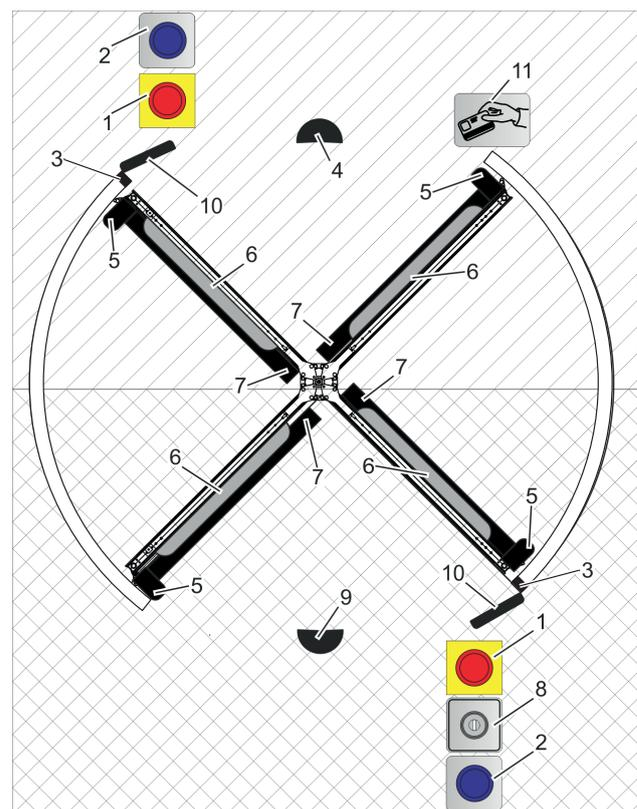
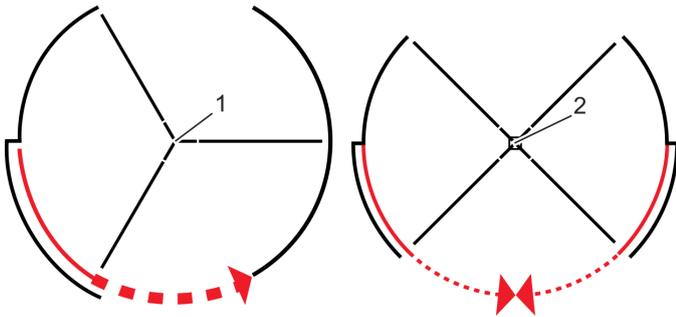
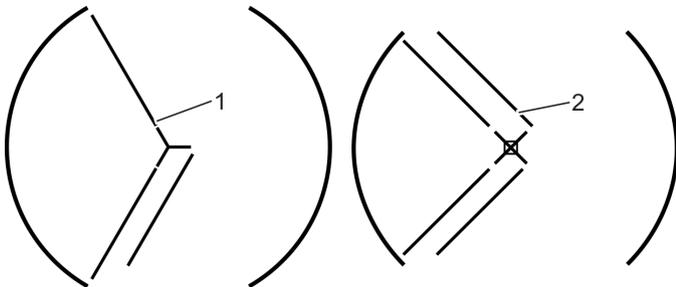
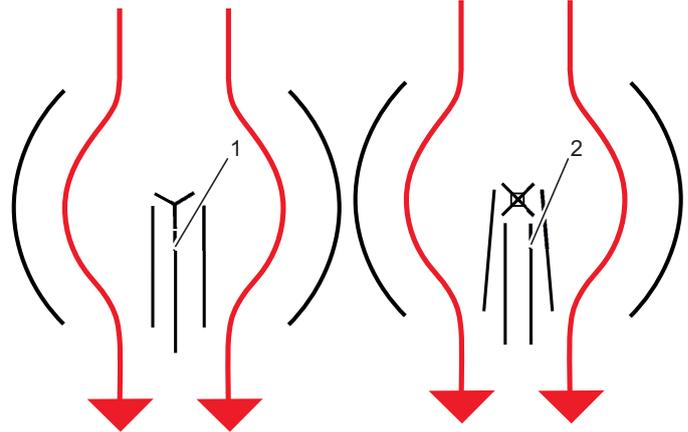

Fig. 138 Functional test overview
Fig. 140 Manual night shield
Fig. 141 Transport opening
Fig. 142 Emergency escape opening
- Set the program switch (Fig. 138/8) to .
- Test the emergency stop buttons provided (Fig. 138/1).
- Test disabled access pushbuttons provided (Fig. 138/2).
- Safety bumper – horizontal (Fig. 138/7)
- Safety bumper – vertical (Fig. 138/5)
- Pre-detection sensor on the wing (Fig. 138/6)
- Check the active safety bumper – leading mullion (Fig. 138/3) for reliable response on entry and exit.
- Set the program switch (Fig. 138/8) to . Align the revolving door manually to the locking position ("9.13 Wing locking device (diagram)" on page 116).
13. Set the program switch (Fig. 138/8) to . Close and lock night shield (Fig. 140/1 or 2) manually. Then unlock night shield and push back.
Set the program switch (Fig. 138/8) to . Close and re-open night shield (Fig. 140/1 or 2) using separate key switch. Ensure that no one is present in the area of movement of the night shield (Fig. 140/1 or 2).
15. Set the program switch (Fig. 138/8) to . Fold wing, then align with transport opening (Fig. 141/1 or 2). Following alignment, fold wing back into starting position.
16. Set the program switch (Fig. 138/8) to . Fold wing, then align with emergency exit (Fig. 142/1 or 2). Following alignment, fold wing back into starting position.
17. Switch off the revolving door. Set the program switch (Fig. 138/8) to .